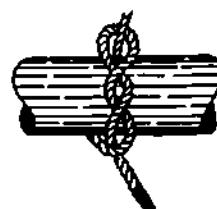

Figure 2-12. The Timber Hitch
c) The timber hitch forms a secure knot that stays tight under a load yet is easily undone when the line is slack (Figure 2-12).